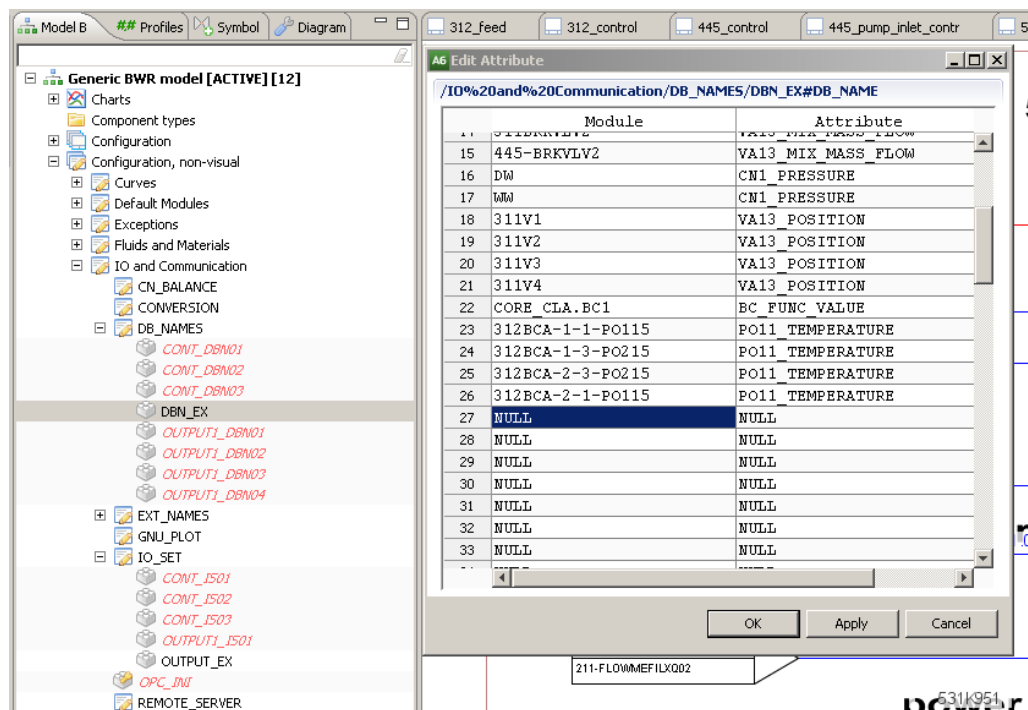

Figure 2. Adding variables to be logged to the output file
2. Define trends with interesting parameters to follow during the accident. You can add more logged variables by editing the "Database name for IO" table in "DBN_EX" (Configuration, non-visual->IO and Communication->DB_NAMES). Add your variables of choice to the end of the table (see Figure 2). More parameters can be added to the GUI charts by holding Ctrl and DND the monitors from the process diagram.
- Define trends with interesting parameters to follow during the accident. You can add more logged variables by editing the "Database name for IO" table in "DBN_EX" (Configuration, non-visual->IO and Communication->DB_NAMES). Add your variables of choice to the end of the table (see Figure 2). More parameters can be added to the GUI charts by holding Ctrl and DND the monitors from the process diagram.
3. Define trends with interesting parameters to follow during the accident. You can add more logged variables by editing the “Database name for IO” table in “DBN_EX” (Configuration, non-visual->IO and Communication->DB_NAMES). Add your variables of choice to the end of the table (see Figure 2). More parameters can be added to the GUI charts by holding Ctrl and DND the monitors from the process diagram.